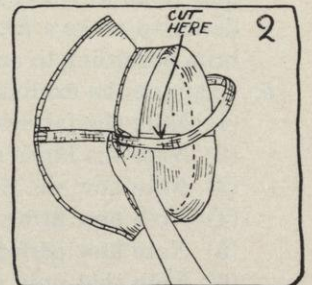

FIG. 2.
- e.* Stretch the ribbon wire flat, and into any curve of the brim, which may come between the edgewire and the headsize wire, on the line of the pencil mark at the direct side (see Figure 2).
- f.* Make a sharp bend in the ribbon wire, right at the headsize wire (see Figure 2), and pin it in place.
- g.* Let the ribbon wire run up on the headsize band and cut it off $\frac{1}{2}$ inch above the top of the headsize band (see Figure 2). (This $\frac{1}{2}$ inch is to be turned back later.)